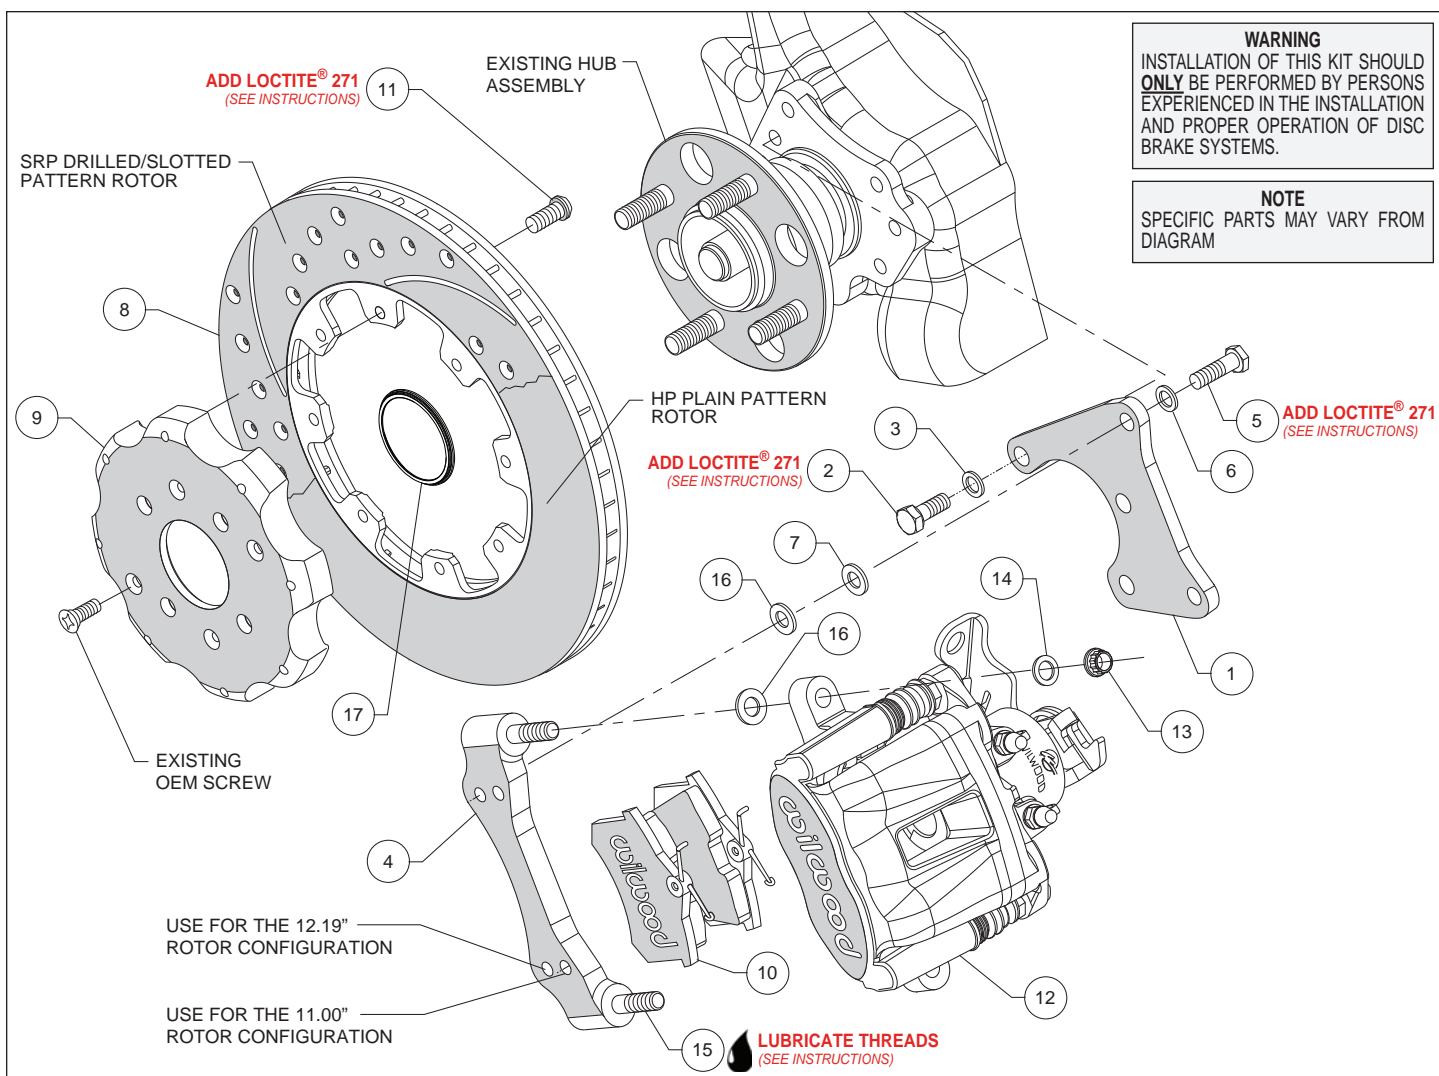

Figure 1. Typical Installation Configuration
- The flat axle bracket (1) should initially be installed with clean, dry threads on the mounting bolts. Orient the axle bracket as shown in Figure 1, and install using bolts (2) and washers (3). Temporarily tighten the mounting bolts. **NOTE: The bracket must fit squarely against the mount bosses on the upright.** Inspect for interference from casting irregularities, machining ridges, burrs, etc. Remove the bracket mounting bolts (2) one at a time, apply red *Loctite*® 271 to the threads, and torque to 40 ft-lb.
- The caliper bracket (4) should initially be installed with clean, dry threads on the mounting bolts. Orient the caliper bracket as shown in Figure 1, and attach to the axle bracket (1) using bolts (5) and washers (6). Initially place two .035" thick shims (16) between the two brackets, Figure 1. Temporarily tighten the mounting bolts. Later, after the caliper alignment has been checked, the mount bolts will be secured using red *Loctite*® 271.
- Orient the rotor (8) and hat (9) as shown in Figure 1 and Photo 1. Attach the rotor to the hat using bolts (11). Using an alternating sequence, apply red *Loctite*® 271 to the threads, and torque to 25 ft-lbs.
- Slide the rotor registration adapter (17) onto the axle register on the axle hub with the smaller O.D. facing outward, Photo 2.
- Install the brake pads (10) into the caliper (12) from the bottom, with the friction material facing the rotor, until the "V" spring clip snaps into place against the anvil, as shown in Figure 1 and Photo 3. They should install easily without interference.
- Lubricate the caliper mounting studs (15) with lightweight oil. Initially place two .035" thick shims (16) on each stud as shown in Figure 1. Mount the caliper (12) onto the bracket (4) using lock nuts (13) and washers (14), Figure 1 and Photo 4. Temporarily tighten the lock nuts and view the rotor from the end of the caliper. The rotor should be centered in the caliper, Photo 5. If not, adjust by adding or subtracting shims (7 and/or 16) between the axle bracket (1) and the caliper bracket (4). Always use the same amount of shims on each of the two mounting bolts. Once the caliper alignment is correct, remove the caliper bracket mounting bolts (5) one at a time, apply red *Loctite*® 271 to the threads, and torque to 35 ft-lb.
- Check that the top of the brake pad (10) is flush with the outside diameter of the rotor (8), Photo 6. If not, adjust by adding or subtracting shims (16) between the caliper and the bracket. After the caliper pad height is set, torque the caliper lock nuts (13) to 30 ft-lb.